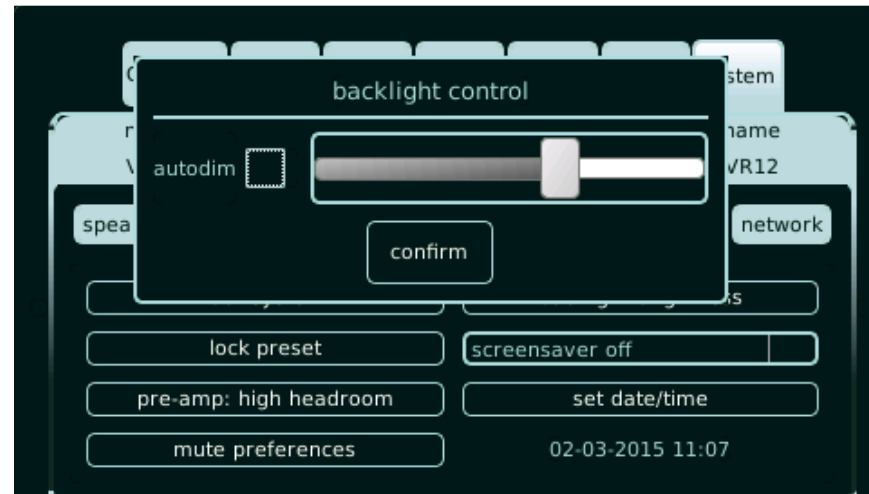

Fig 24. Backlight control set-up menu
7.7.8 Backlight brightness - this can be adjusted, in “manual” (with slider bar) or “automatic” (through light sensor behind the front panel); Both the brightness of the display and the Alcons logo are adjusted. (see fig.24)